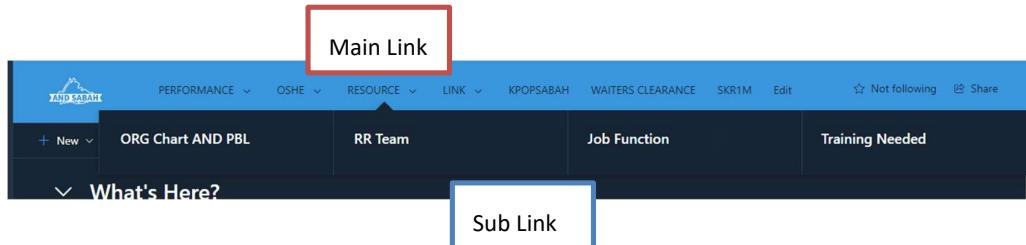

Figure 3.20: Main & Sub link on Home Page Navigation Bar
15. As can see in Figure 3.20, the sub-link will link to the Subsites pages. Hence, I need to do the same method by clicking New -> Page to do the Subsites pages.